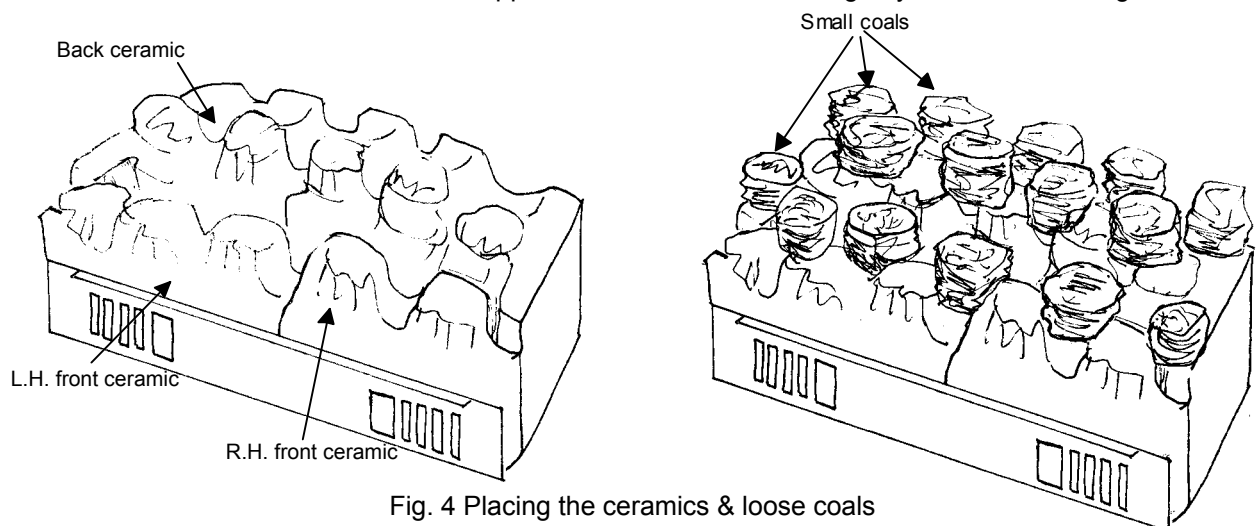

Fig. 4 Placing the ceramics & loose coals
4. The ceramic components are fragile and should be handled with care. Refer to Fig. 4 for positioning of ceramic fibre blocks and coals.
7. Remove the coals from the bag and place them on the ceramic blocks in accordance with Fig. 4.
11. Replace the ceramic blocks and coals (see Fig. 4).